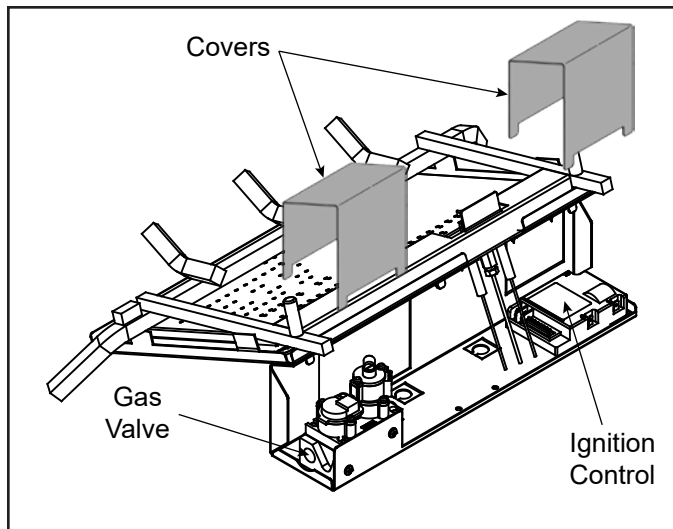

Figure 8.4 Component Cover Installation
2. Install Covers so that they completely cover the appliance gas valve and ignition control module. See Figure 8.4